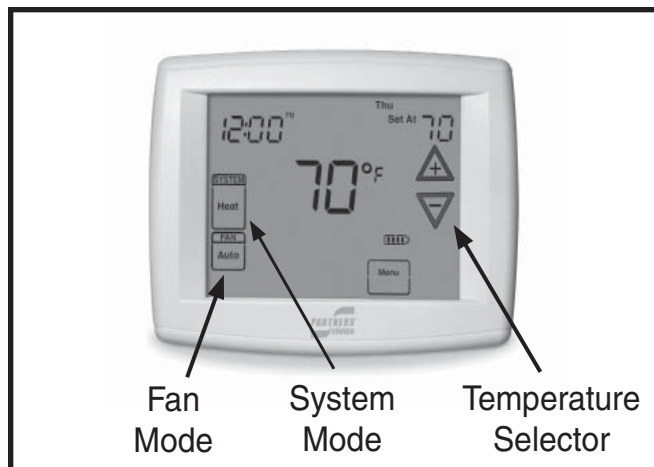

Figure 1. Digital Thermostat
1. Set the thermostat's system mode to COOL or AUTO and change the fan mode to AUTO. See Figure 1.
1. Set the thermostat's system mode to HEAT or AUTO and change the fan mode to AUTO. See Figure 1.
Change the thermostat's system mode to OFF and the fan mode to AUTO (See Figure 1). **NOTE:** The system will not operate, regardless of the temperature selector setting.
Set the thermostat fan mode to ON (Figure 1). The indoor blower starts immediately, and will run continually until the fan mode is reset to AUTO.